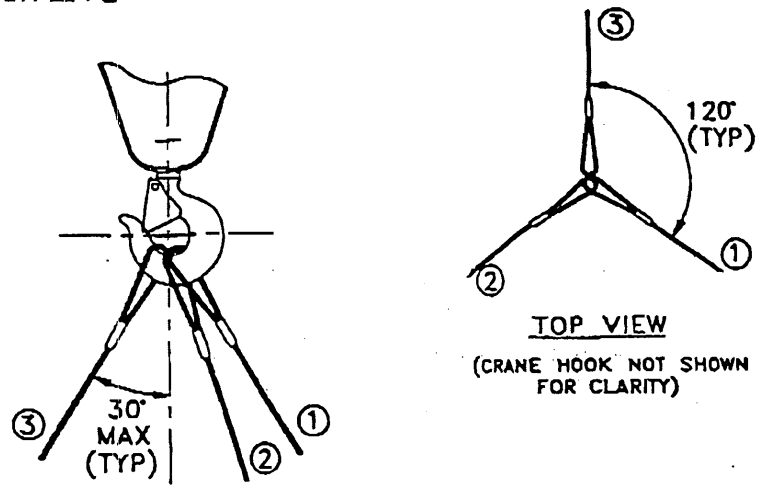

FIGURE 1
- I. All legs must be collected within 30° either side of the center line of the hook bowl as illustrated in Figure 1 and 2 of the "Hook Up Drawing"
- III. Three (3) Leg Slings (Fig. 1 - "Hook Up Drawing")
5. The included angle between the sling legs must be 120° as shown in the top view of Figure 1 in the "Hook Up Drawing."